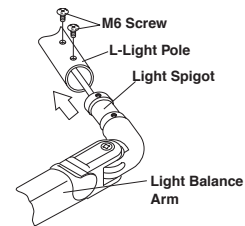

Fig.5-14 Fixing the Dental Light to L-Light Pole
A Remove the 4 x side panel fixing screws from the bottom of the cuspidor unit and remove the side cover. (Fig.5-14)
B. Pass the light wires through the L-light pole and insert the light spigot into the light pole and fix it with 2 x M6 screws. (Fig.5-14)